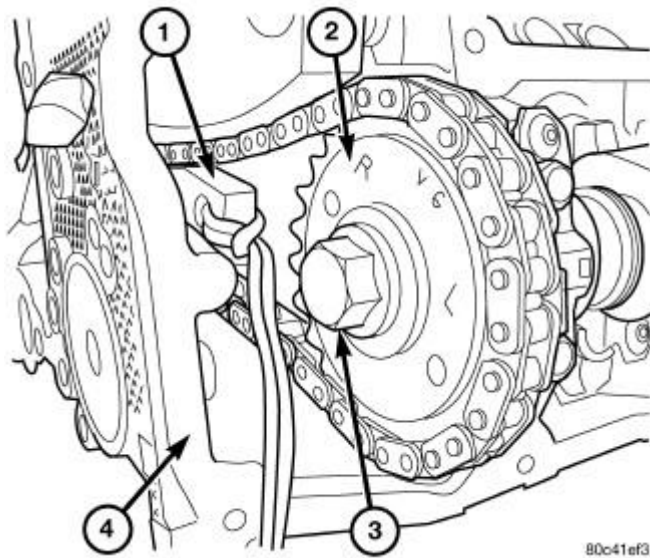

Fig. 63: Timing Chain Tensioners Secured With Timing Chain Wedge
4. Loosen but **DO NOT** remove the camshaft sprocket retaining bolt. Refer to **Fig. 63**. Leave bolt snug against sprocket.
5. Position the Wedge Locking Tool (special tool #8379, Locking Tool, Wedge) (1) between the timing chain strands. Refer to **Fig. 63**. Tap the tool to securely wedge the timing chain against the tensioner arm and guide.